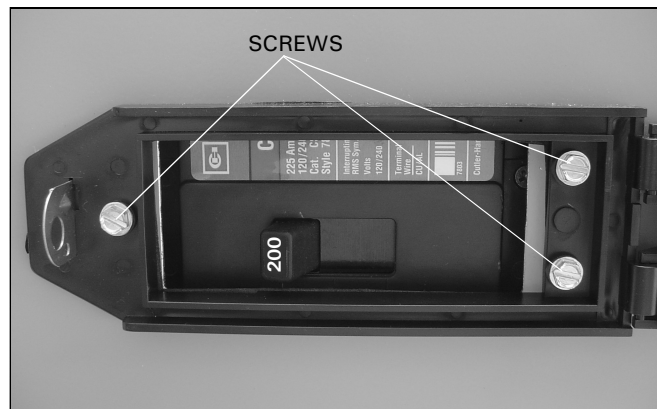

Figure 71. Location of the Service Entrance Cover Screws.
Step 3: Remove the three (3) screws securing the service entrance cover to the ATS door using a blade screwdriver or 0.25 in. nut driver. Remove the service entrance cover (see Figure 71).